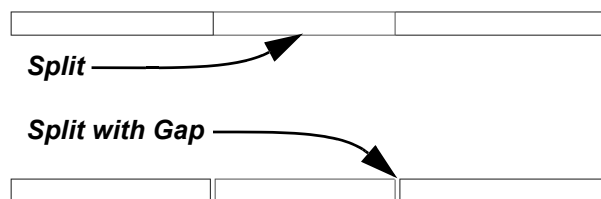

Figure 2-95
- An additional option,  (Split with Gap), splits the linear element at the point you select, as shown in Figure 2-95, but also creates a *Joint Gap* that is specified in the Options Bar.